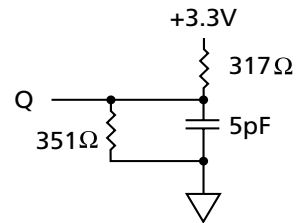

Figure 2
- The load used for V_{OH}, V_{OL} testing is shown in Figure 2. AC load current is higher than the shown DC values. AC I/O curves are available upon request.
4. Output loading is specified with $C_L = 5\text{pF}$ as shown in Figure 2.